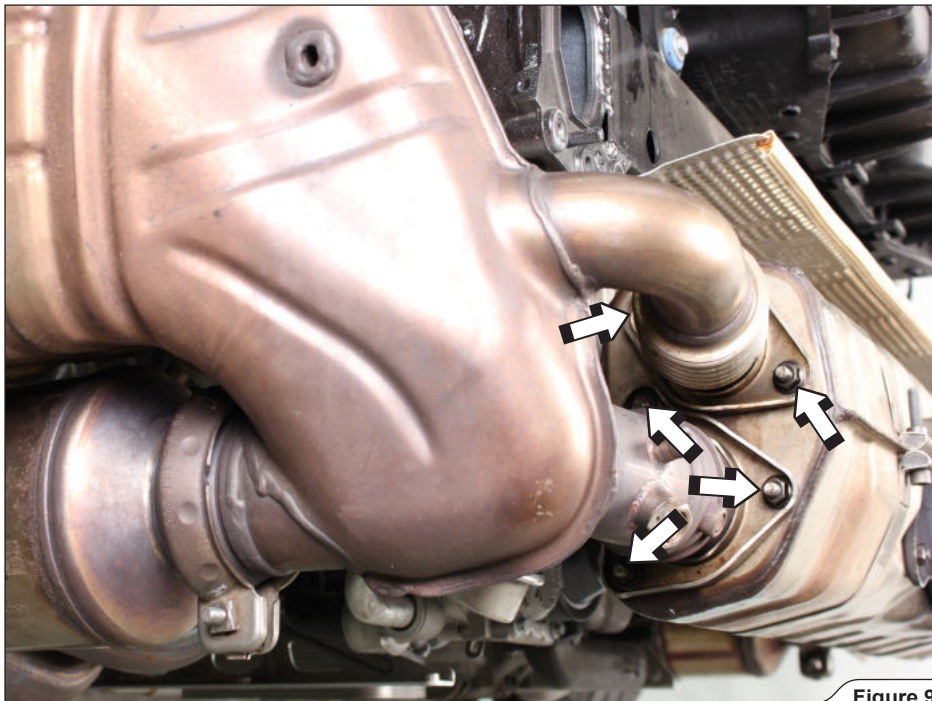

Figure 9
8. Unscrew the marked flange nuts, carefully pull the vacuum hoses off the vacuum actuators, loosen and remove marked connection clamps, unscrew side-muffler's bracket bolts and carefully remove left side muffler off the vehicle (**Figure 9, 10**).